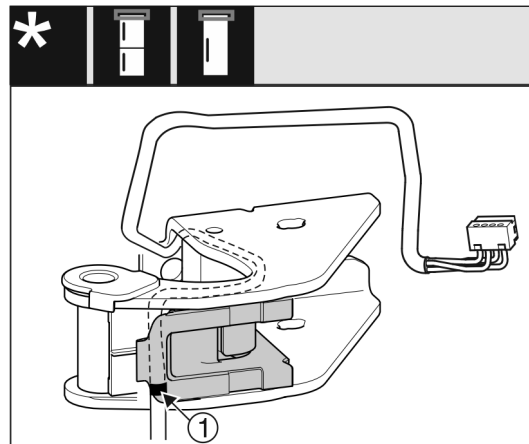

Fig. 29
- ▶ The center mark Fig. 29 (1) must be positioned on the edge of the cable bracket.